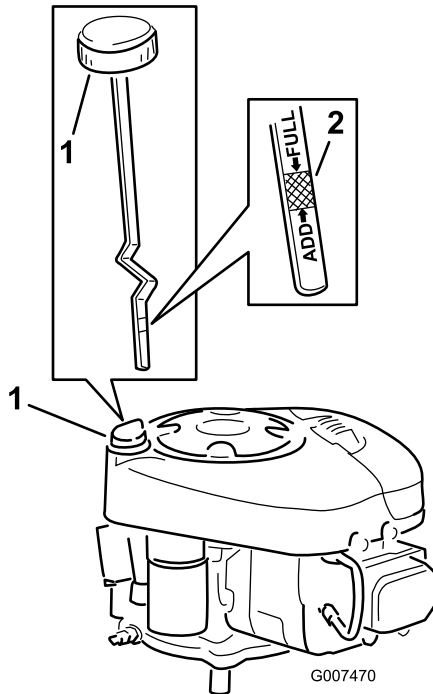

Figure 21
8. Clean around the oil dipstick (Figure 21) so that dirt cannot fall into the fill tube and damage the engine.
9. Unscrew the oil dipstick and wipe the metal end clean (Figure 21).
10. Screw the oil dipstick fully onto the fill tube (Figure 21). Unscrew the dipstick again and look at the metal end. If the oil level is low, slowly pour only enough oil into the fill tube to raise the level to the Full mark on the dipstick.
13. Slowly pour approximately 80% of the specified amount of oil into the fill tube (Figure 21). Check the oil level; refer to steps 9 and 10 of Checking the Oil Level.